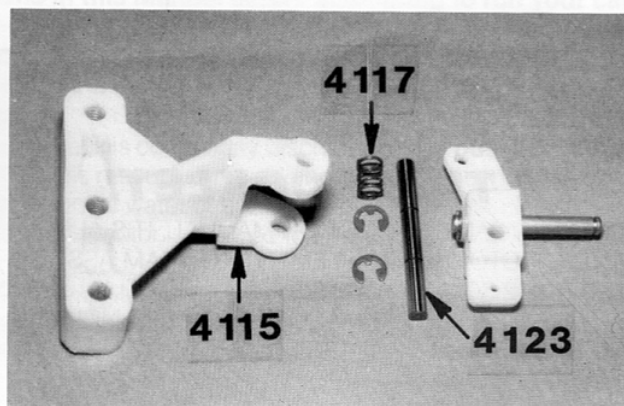
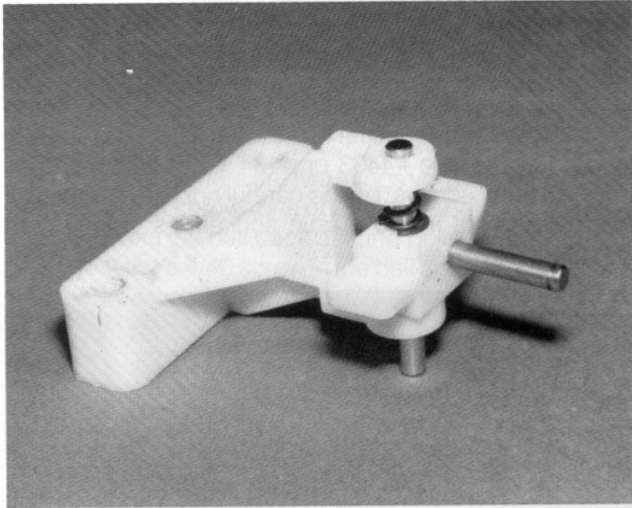

Fig. 5
Fig. 6
□ **Figs. 5 & 6**—Now we're going to join the steering block to the #4115 front suspension arms. Place the steering block in the arm as shown in Fig. 6; place a spring on top of the arm where shown. Slide the #4123 kingpin into the suspension arm holes through the steering block and spring. Now put an E-clip into each of the two grooves in the kingpin. It's easier to put the clip in the groove by the spring first, and then to put the clip on the bottom of the steering arm last. It will be a close fit but they will go on. Pushing them in with a small screwdriver seems to work best. Assemble both blocks. Make sure they're securely in the grooves.